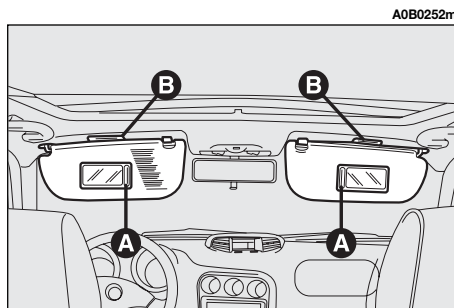

fig. 136
On the back of the visors there is a courtesy mirror with sliding cover (A-fig. 136), lit by the lamp (B).